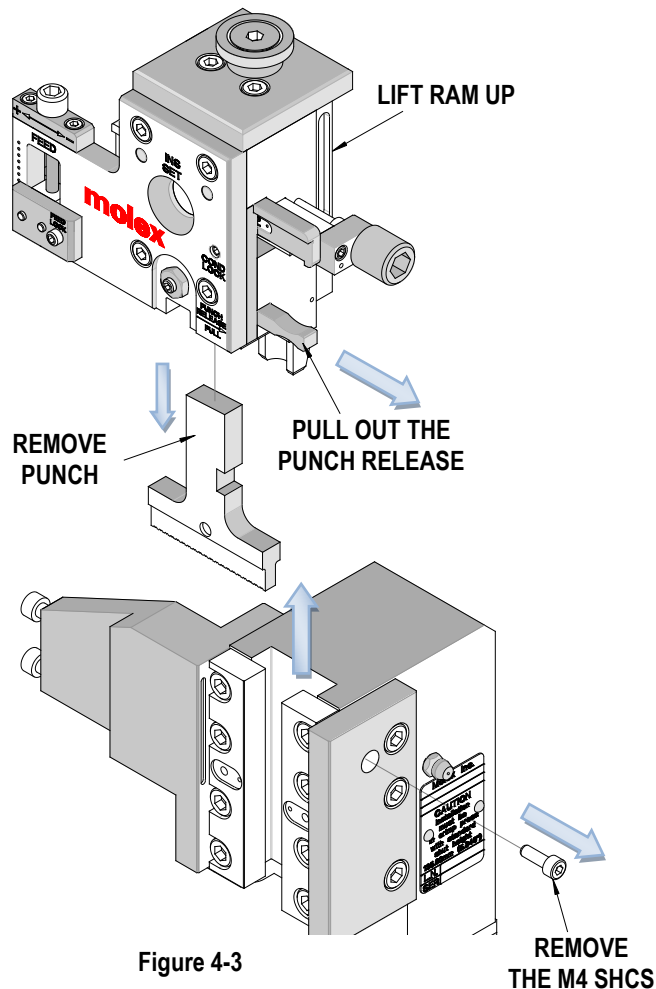

Figure 4-3
3. Use a 3mm hex wrench to remove the M4 socket head cap screw retaining the ram. See Figure 4.3.
5. Pull out the punch release. While holding it out, pull the FFC crimp punch out of the bottom of the ram. See Figure 4.3.